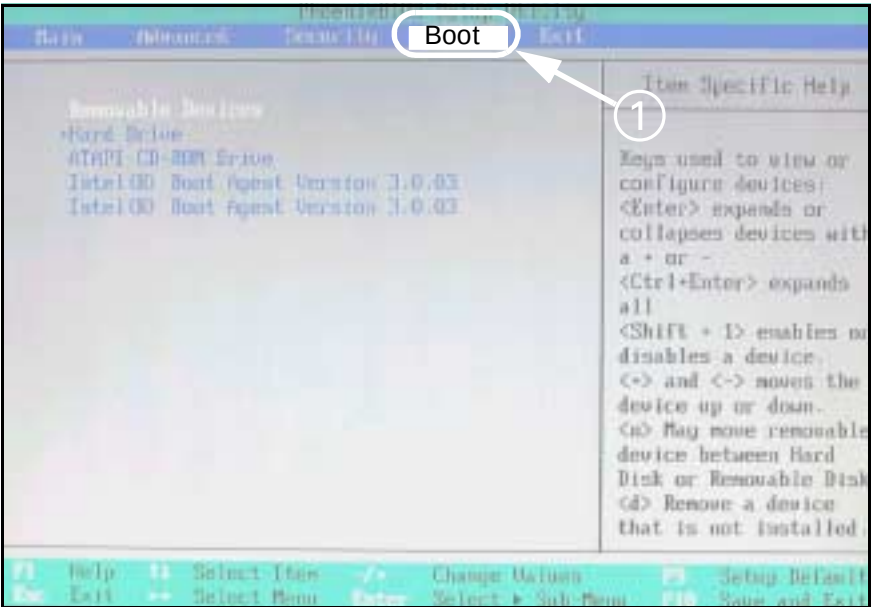

Figure 2-6 Boot settings
17. Use up/down arrow keys to select “Boot” tab (① in Figure 2-6).
18. Verify correct “Boot” order as shown in Figure 2-6.